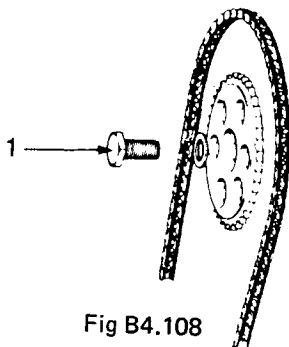

Fig B4.108
- (9) Refer to Fig B4.108. Remove the fixing (1) for the camshaft sprocket and remove the sprocket.